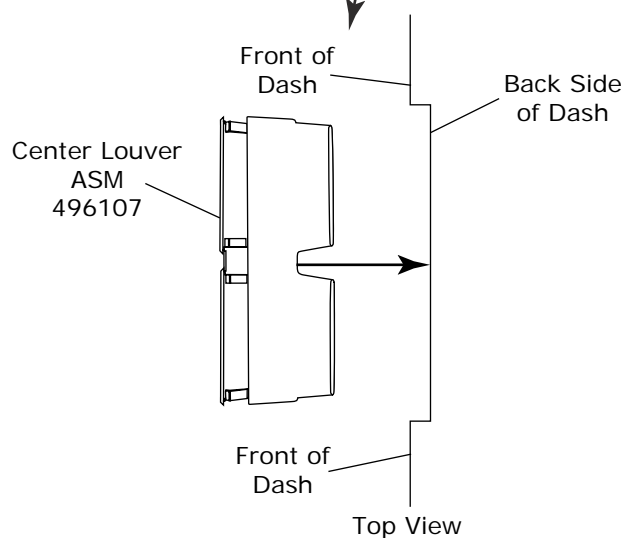

Figure 2a
7. Install center louver assembly in dash as shown in Figure 2a, below.